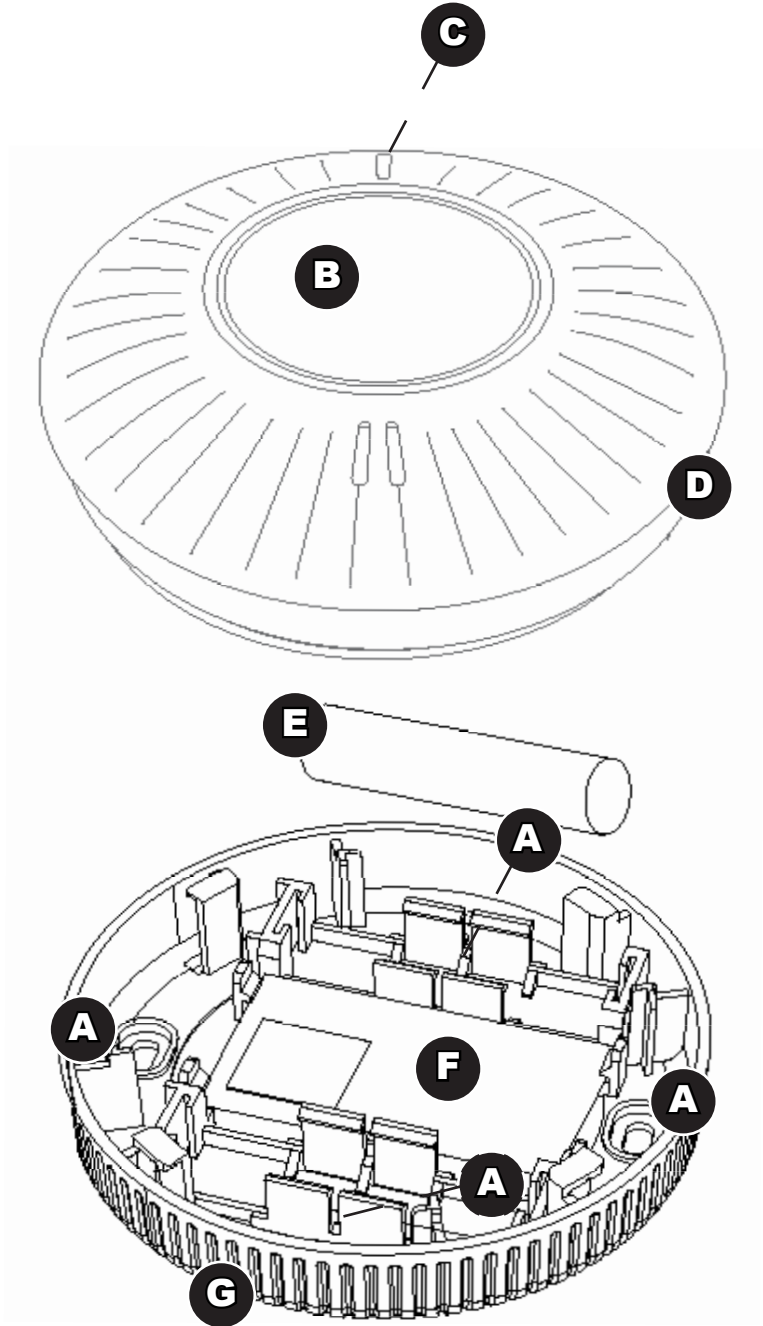

Fig. 2
3. Insert battery C as indicated in figure 2 paying attention to the polarity indicated on the transmitter board. The red LED will begin to flash intermittently;